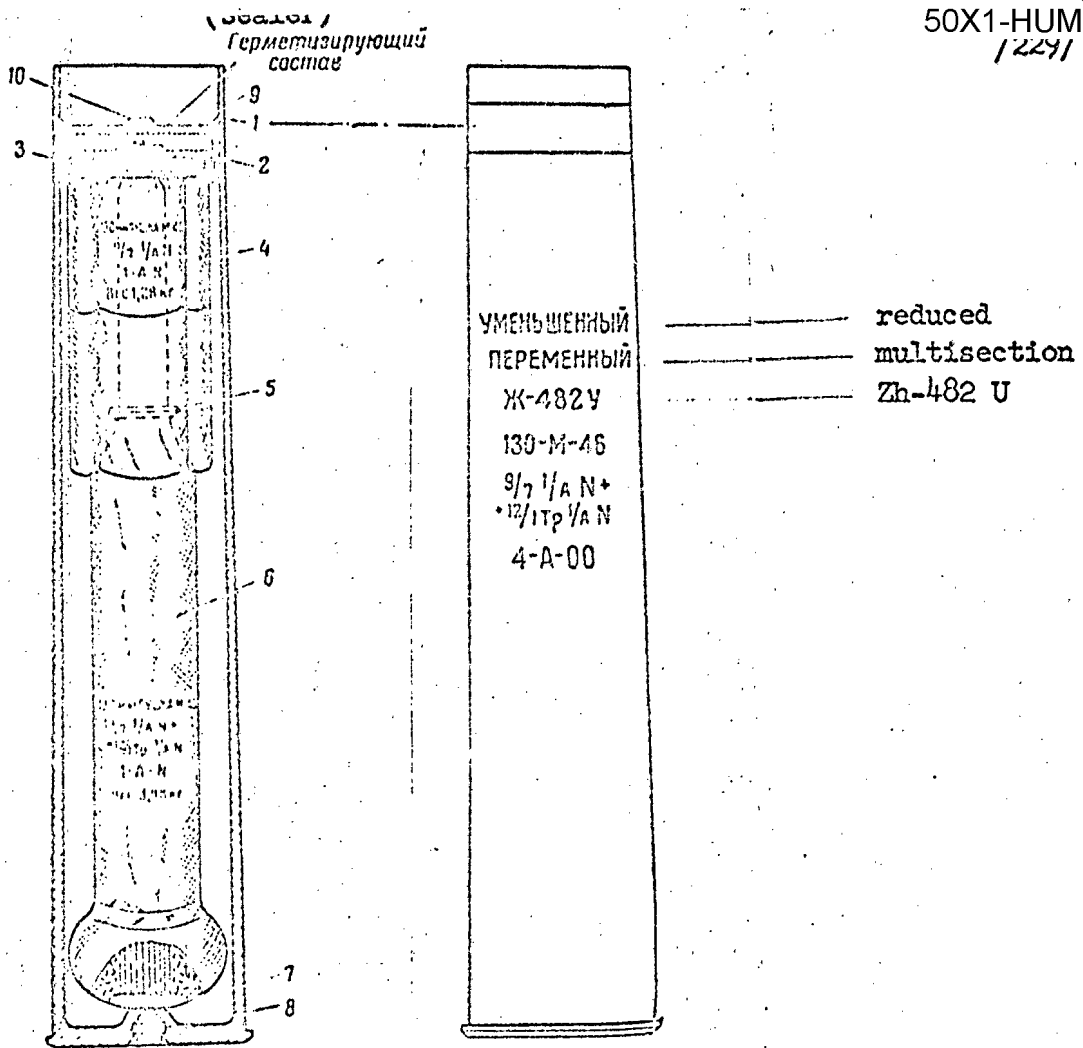

Fig 122. Reduced multisection charge for the M-46 Gun
Reduced multisection charge, index Zh-482U, (Fig 122) consists of:
- main packet (6) in a bottle-shaped bag, consisting of an increment of tubular pyroxylin powder 12/1 Tr and ganular pyroxylin powder 9/7 filled in around the increment; /230/
- two equal (balancing) increments in bags (4) containing pyroxylin powder 9/7 which fit over the upper narrow part of the main packet;
- decoppering agent (5) in the form of a coil of lead wire slipped over the upper narrow part of the main packet.
The charge in the case is covered by the cover (4) (Fig 121), a cylinder (3), a normal or standard cover (2) (obturator), and a reinforced cover 9 (Fig 122).